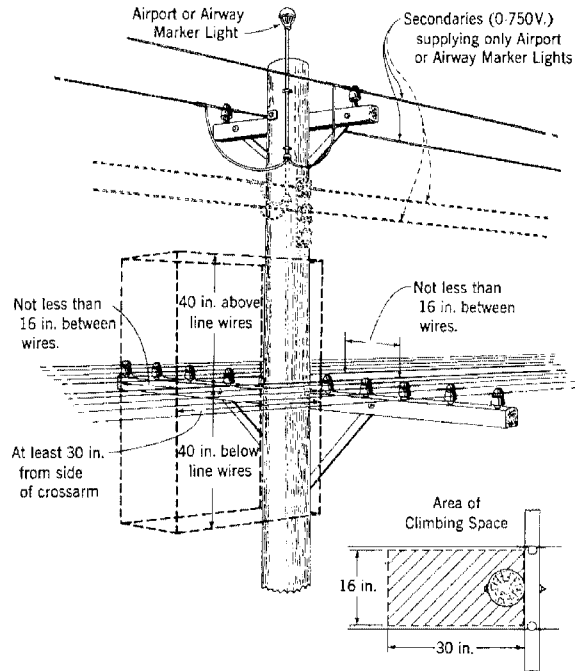

Fig. 5
3.06 On joint poles carrying only longitudinal power conductors of 750 volts or less and used to supply airport or airway marker lights, the width of climbing space *across* the line may be reduced to 16 inches. The width of climbing space *along* the line must be maintained at 30 inches, however. See Fig. 5.